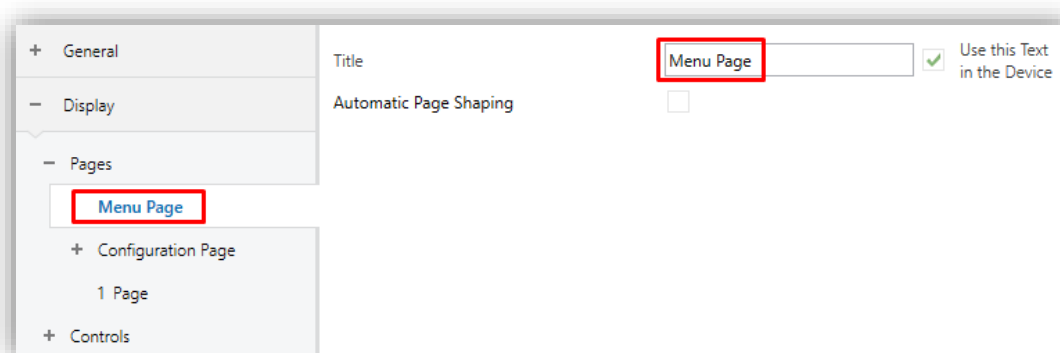

Figure 43. Menu.
- **Title:** text field that identifies the menu pages. In addition, this field allows changing the name of the tab in ETS left menu, as shown in the Figure 43.